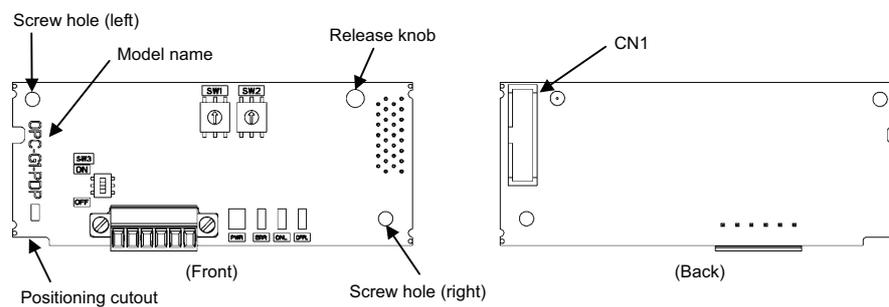

Figure 1.1 Names of Parts on PROFIBUS-DP Communications Card (OPC-G1-PDP)
- (1) A communications card, two screws (M3 × 8), and the PROFIBUS-DP Communications Card Instruction Manual (this document) are contained in the package.
- (2) The communications card is not damaged during transportation--no defective parts, dents or warps.
- (3) The model name "OPC-G1-PDP" is printed on the communications card. (See Figure 1.1.)